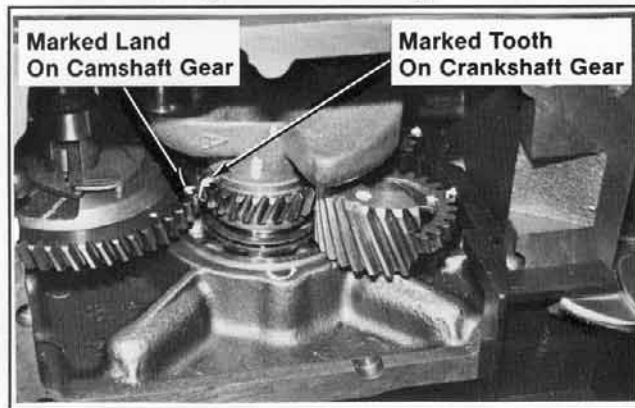

Figure 5. Aligning Camshaft Gear and Crankshaft Gear.
4. Align the fifth (5th) land marked on camshaft gear with the fifth (5th) tooth marked on crankshaft gear. Refer to Figure 5.